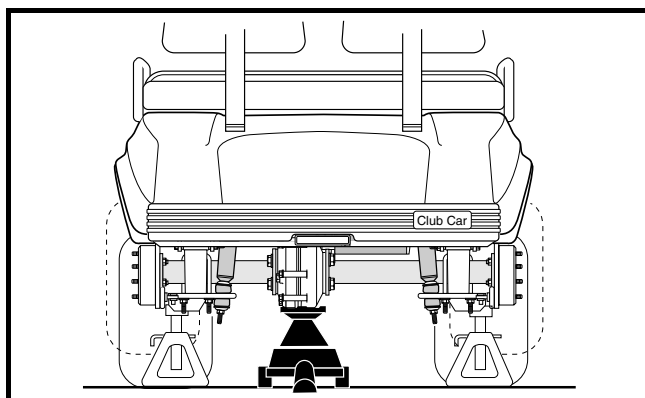
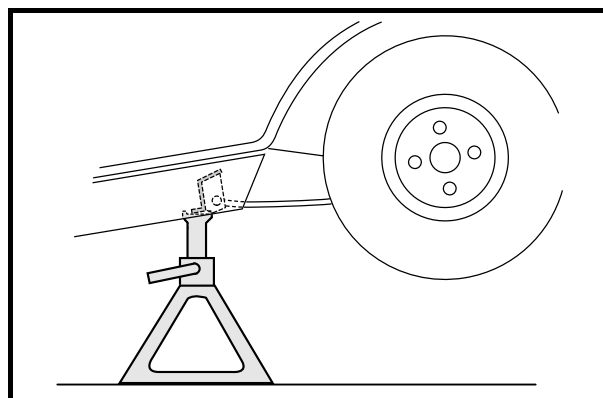

Figure 15-2 Lift Vehicle with Floor Jack
Figure 15-3 Support Vehicle with Jackstands
4. Place floor jack under transaxle and raise rear of vehicle (**Figure 15-2, Page 15-3**) then place jackstands under frame cross-member between the spring mount and the side stringer, just forward of each rear wheel. Lower the vehicle to let the jackstands support the vehicle (**Figure 15-3, Page 15-3**). **See following WARNING.**